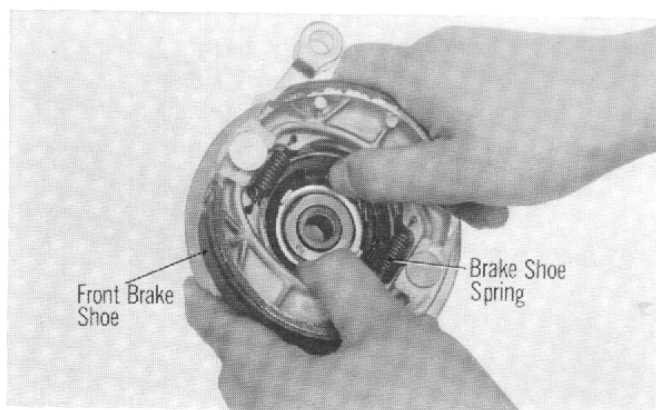

Fig. 75
- (1) Place an adequate stand under the engine to raise the front wheel.
- (2) Remove the front brake cable and the speedometer cable.
- (3) Remove the axle nut and pull out the front wheel axle shaft and the front brake panel can be removed as a unit.
- (4) The brake shoe is fixed in place with the brake shoe spring; therefore spread the brake shoes apart and remove from the panel. (Fig. 75)
- (5) Remove the front brake cam and the speedometer gear from the front brake panel.
- (6) Remove the tire and tube from the rim using a tire lever and pull out the tube from the tire.